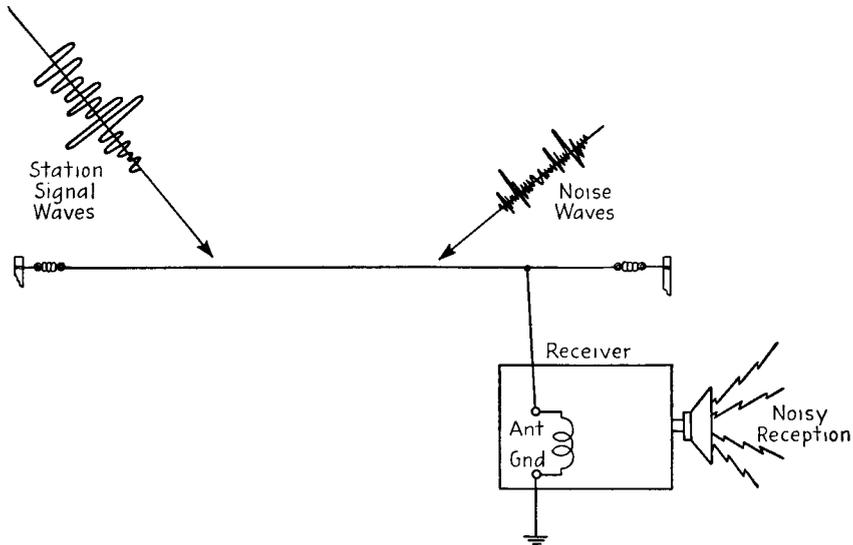

FIG. 17-2. Noise and signal pickup by an antenna.
**Signal-to-noise ratio.** The purpose of the antenna is to pick up signals from the various broadcasting stations, and to conduct them to the receiver. Unfortunately, the antenna cannot differentiate between desired signals and undesirable radio waves that result in noise in the loud-speaker. Both signals come in simultaneously with disturbing effects for the listener, as indicated in Fig. 17-2.